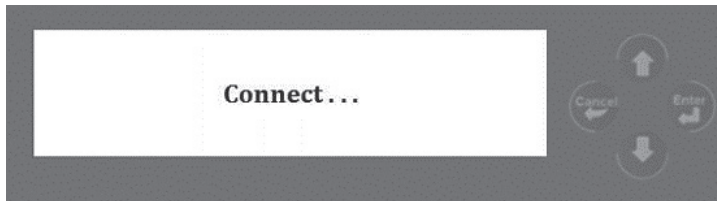
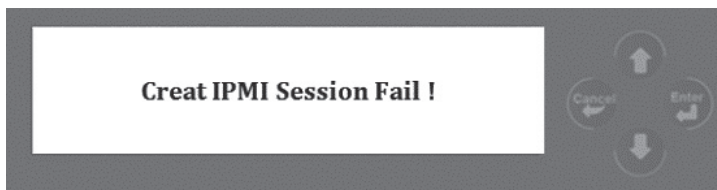

Figure 3
Figure 4
2. Enter connect BMC interface, as shown in figure 3. If BMC works normally (connect normally and get work mode normally), it will enter the main menu interface, otherwise it will report errors, as shown in the figure 4 and 5, and enter service telephone interface, as shown in figure 6: